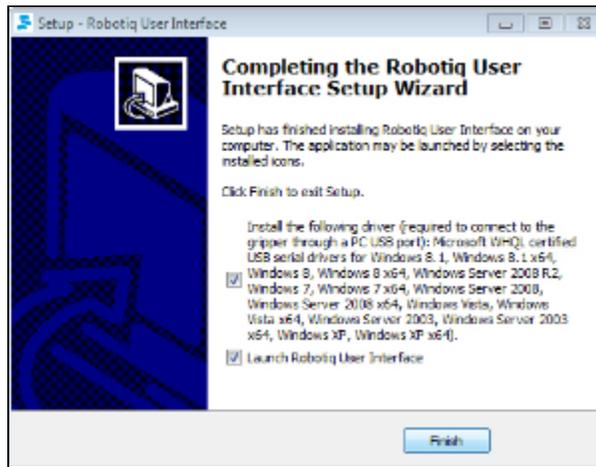

Figure 3.1.2 : Completing the installation of Robotiq User Interface.
4. After installation is completed you can launch the Robotiq User Interface, if you do not have the required drivers for the USB connection with the Gripper, please select the box shown in figure 3.1.2.
To use the Modbus RTU communication protocol via the USB port, you need to select the driver installation shown in Figure 3.1.2.